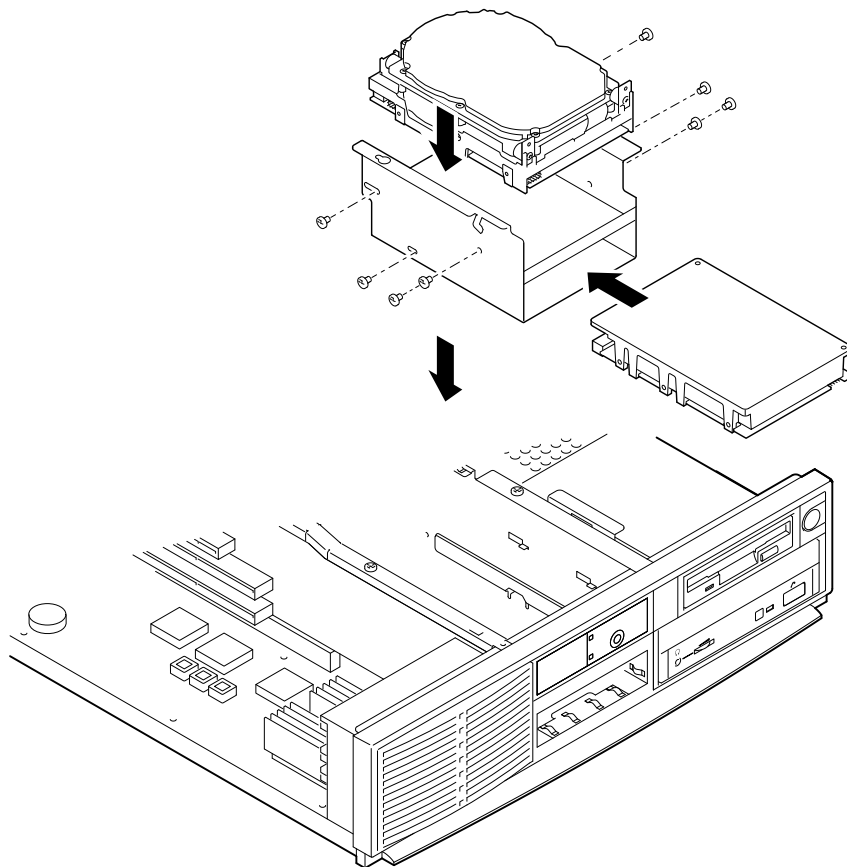

Figure 3-12. Installing Drives in Bracket
4. Orient the bracket as Figure 3-12 shows. Position the drive so that cable connections face to the rear of the system. Select the bracket mounting holes that match the threaded holes in the drive. Mount the drive in the bracket, securing it with the four screws provided with the drive.